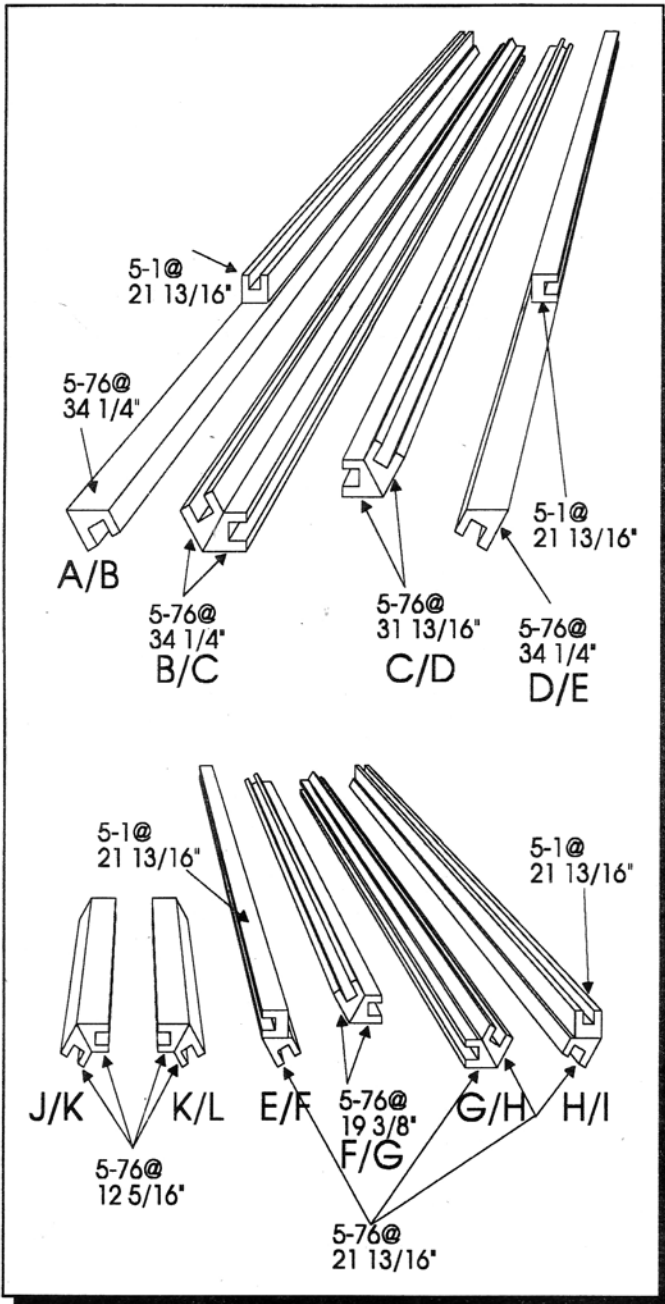

Figure 1
The following are longframe assemblies to be glued together before painting. See Figure 1.
1. From the "LPL" gather all of the parts in the Walls and Windows section including the "Special Longframe Assemblies" parts (Figure 1), the Siding Wall Panels, and the 2nd and 3rd Floors.